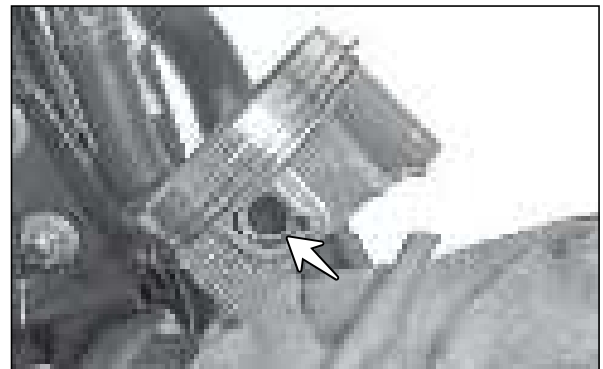

Fig. 3.86
- Remove the circlip pin piston from any one side of the piston. (Fig. 3.86)